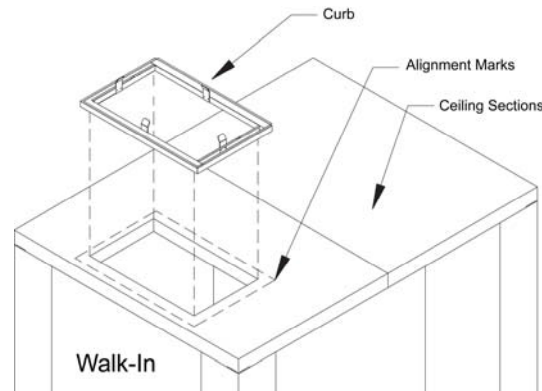

Figure 3
- Remove the paper from the gasket and position the curb, gasket side down, on the pencil line. Press down firmly. **Note:** Movement of the curb is very difficult after the gasket adheres to the ceiling section. Refer to Figure 3.